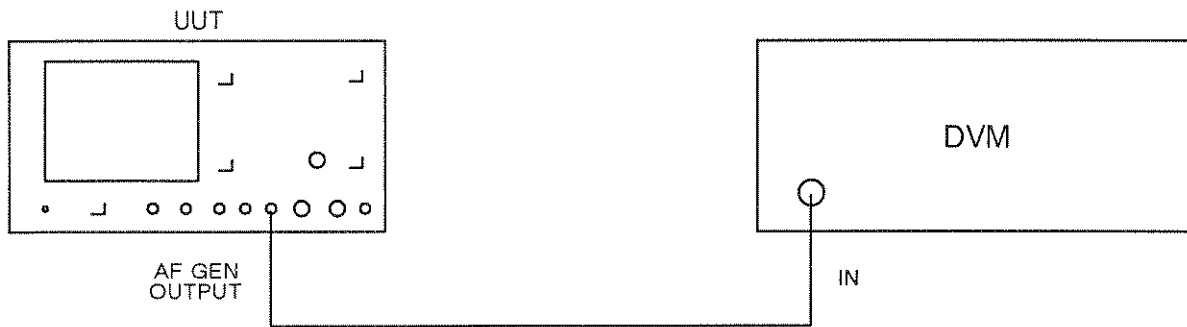

Fig. 5-12 Test equipment connections for AF generator output level accuracy
- (1) Connect the equipment as shown in Fig. 5-12.